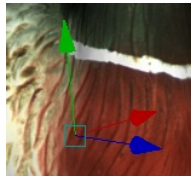

Figure 8.49: Translation control
- Freely translate the object in the *3D View* window by dragging the control square. Or translate the object along a specific axis by dragging only the necessary control arrow near the control square (see Figure 8.49).